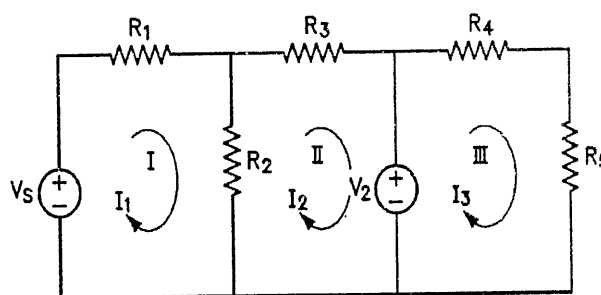

FIG. 1.76
- Let us solve the circuit shown in figure 1.76.